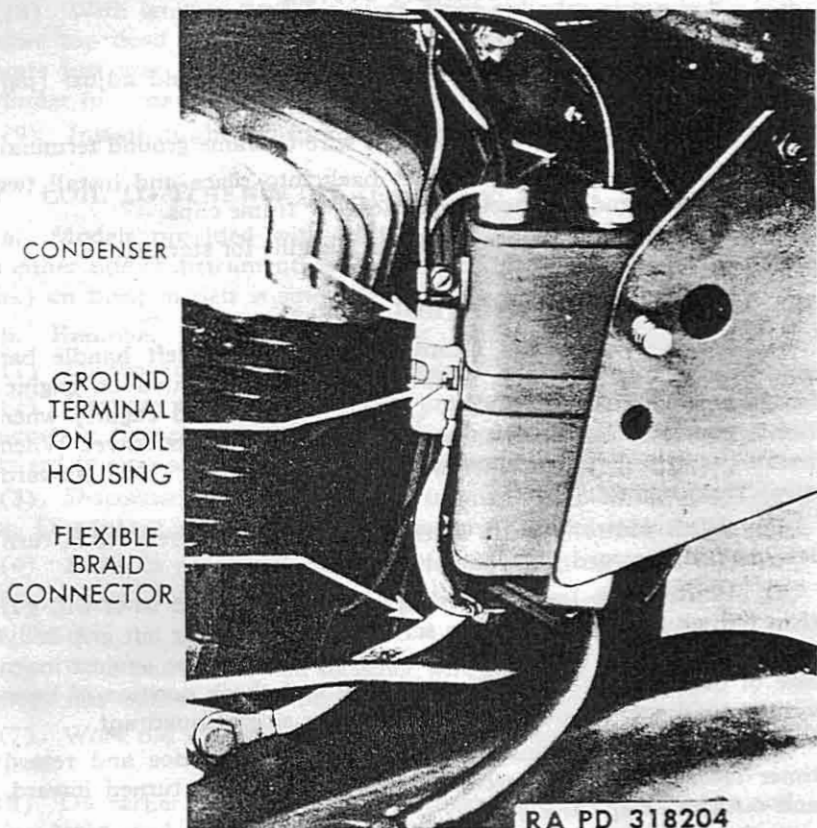

Figure 54—Coil Front Connections Showing Radio Bonding and Noise Suppression Condenser
(3) Check final adjustment. Readjust full advance and retard timer lever positions as necessary when left grip is turned inward, and outward, respectively.
89. SPARK COIL (fig. 54).
(7) Swing cleaner back and remove wire connections from coil front terminal screw (fig. 54).
(8) Disconnect radio bonding at coil front ground terminal (fig. 54).
(9) Remove nuts and bolts which mount coil to bracket. Coil is now free for removal.